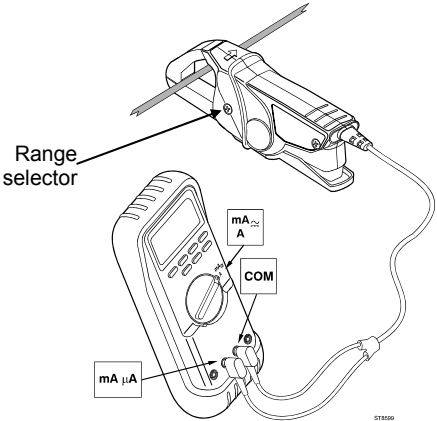
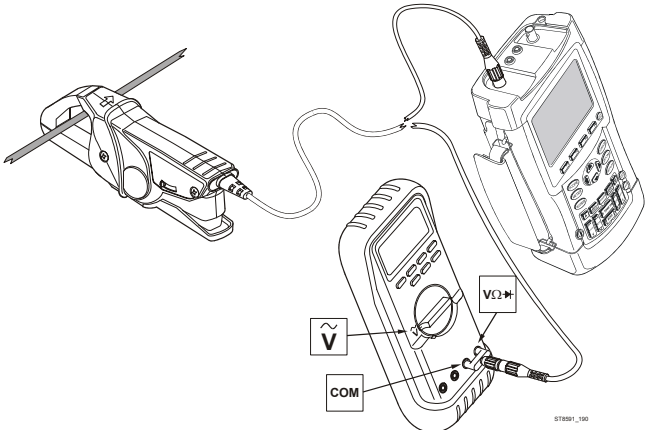

Figure 2. Measurement Setup for i200
Figure 3. Measurement Setup for i200s
1. Connect the i200/i200s Curre the measuring instrument. i200: See Figure 2. i200s: See Figure 3. When yc Dual Banana to BNC Adapter Clamp to the input.